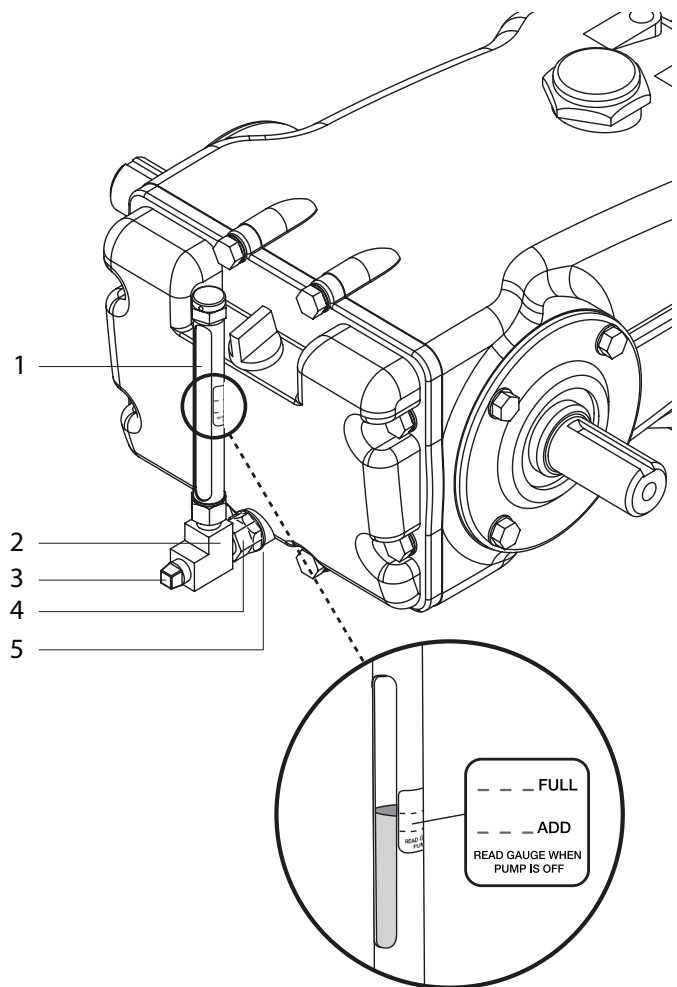

Figure 1
3. Install 1/4" BSP fitting (Figure 1, item 4) with o-ring (5) into rear cover of pump.
4. Thread in tee (2) to fitting (4).
5. Thread in square end plug (3) into tee (2).
6. Thread in crankcase oil level indicator (1) into open port of vertical leg of tee (2).
1. Ensure square end plug (3) is installed at end of tee (2).
3. Fill pump to capacity as stated in pump data sheet. Add an additional .25 oz of oil to fill crankcase oil level indicator (1) to center of indicator.
5. Position silver label on crankcase oil level indicator (1) so that the "FULL" line is level with the oil when pump is not running (Figure 1).